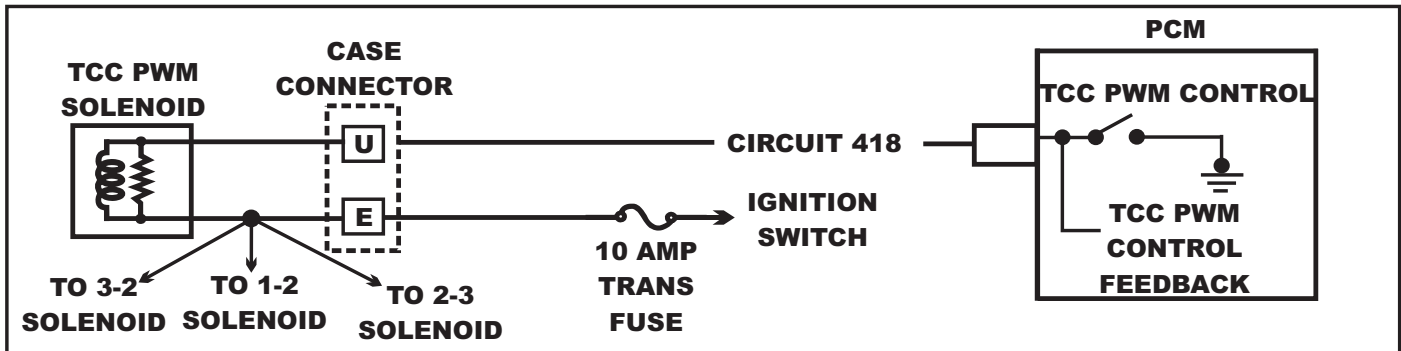

Figure 113
- The TCC PWM Solenoid is supplied “Key On” power through case connector terminal “E”. The PCM/VCM controls the solenoid through the ground side on Circuit 418 at case connector terminal “U”, Refer to Figure 113.
- There are times when the scan tool will indicate that the command to turn the solenoid on has been sent, when in reality it has not. Use a volt meter on Circuit 418 (Usually Brown) to insure that the voltage is being pulsed to ground during solenoid “ON” time, Refer to Figure 113.
- A faulty ignition switch, causing intermittent power loss to case connector terminal “E”. (Other solenoid codes should be stored). Refer to Figure 113.
- It would be best to snip the Circuit 418 wire (See Figure 113) about 3 inches away from the computer and the transmission and replace it in order to save time.